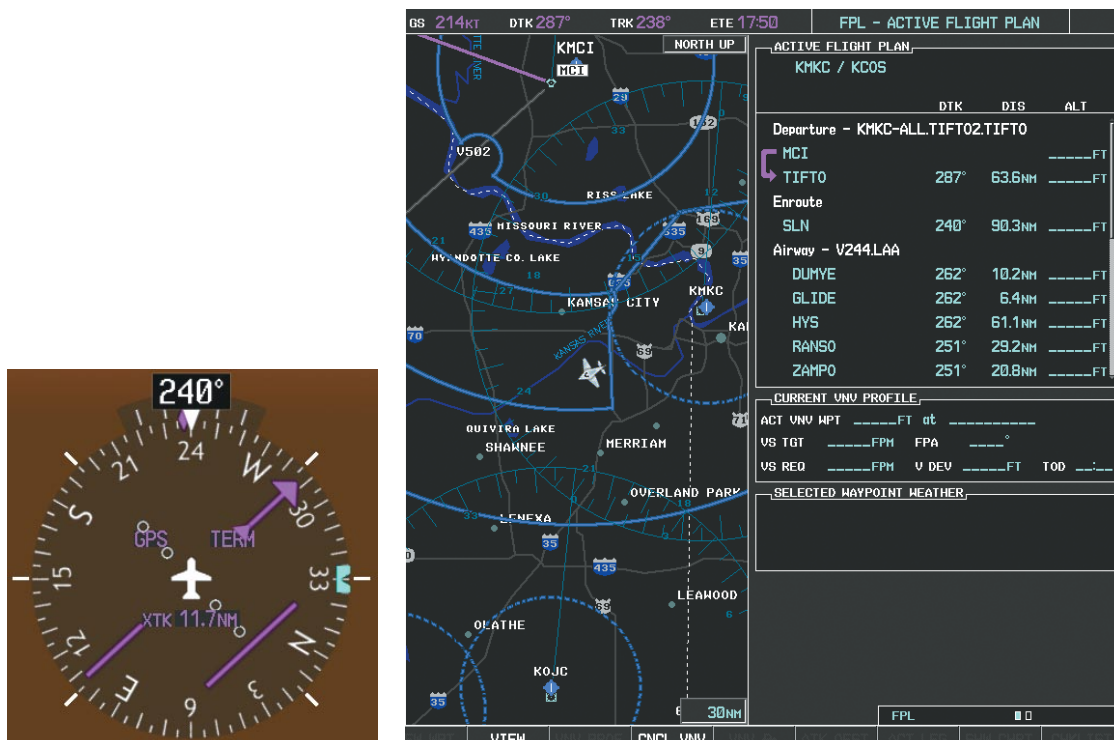

Figure 5-106 Assigned Heading of 240°
- 1) Prior to departure, the TIFTO2 departure, the airways, and the DBRY1 arrival at KCOS are loaded. See the Procedures section for loading departures and arrivals. Note the magenta arrow in Figure 5-106 indicating the active departure leg.
- 2) Figure 5-106 shows the aircraft on the assigned heading of 240°. 'TERM' (Terminal) is the current CDI flight phase displayed on the HSI indicating 1.0 nm CDI scaling.